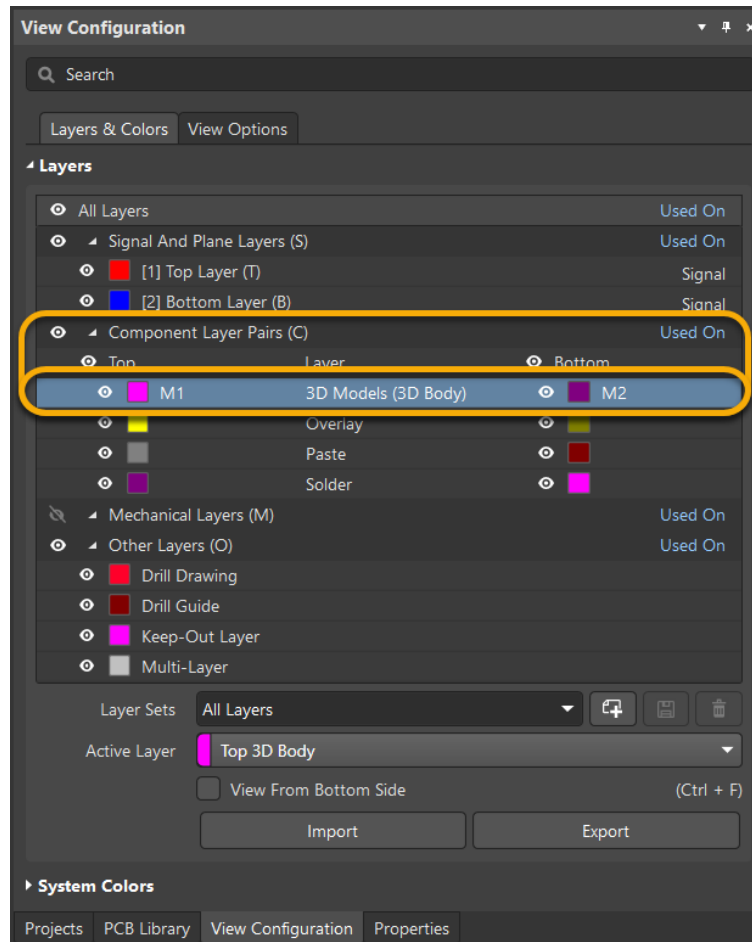

Figure 35. Layer Pairs
50. The new layer pair will be added to the *Component Layer Pair* section of the *View Configuration* panel, see Figure 35.